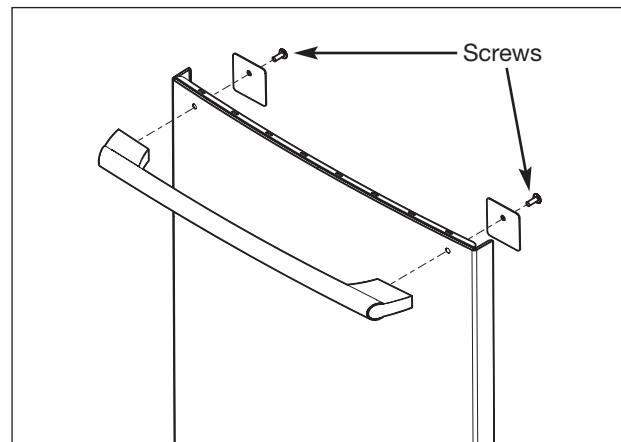

Figure 5-3. Door Handle Removal
2. Using a #2 Phillips head screwdriver, extract the two screws securing the door handle to the outer door panel. (See Figure 5-3)